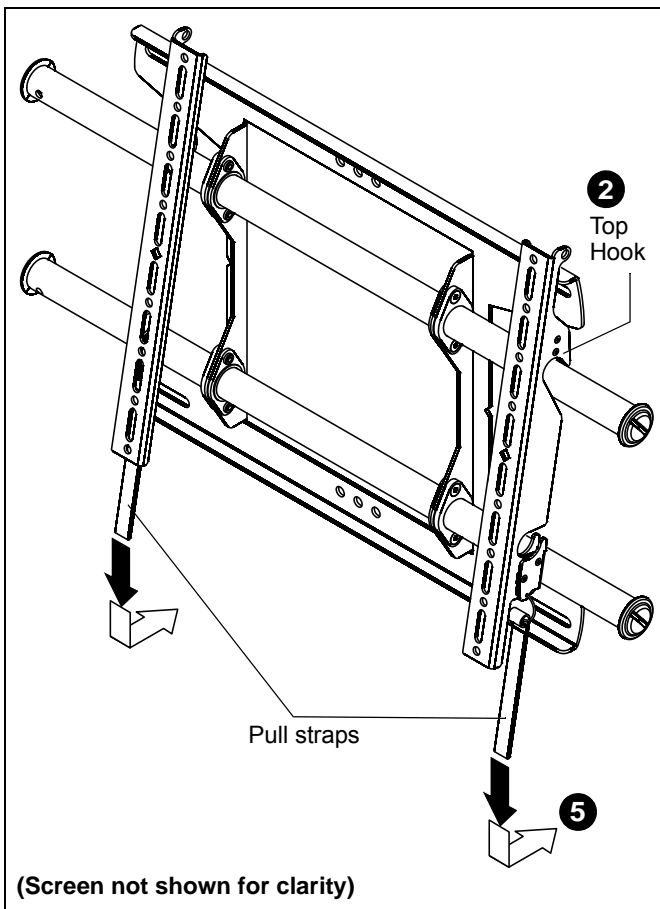

Figure 9
2. Hang top hook of interface brackets onto the top bar of the mount. (See Figure 9)
5. Pull downward on the pull straps and swing inward toward wall, latching interface brackets to lower bar and locking bottom of screen to the mount. (See Figure 9)